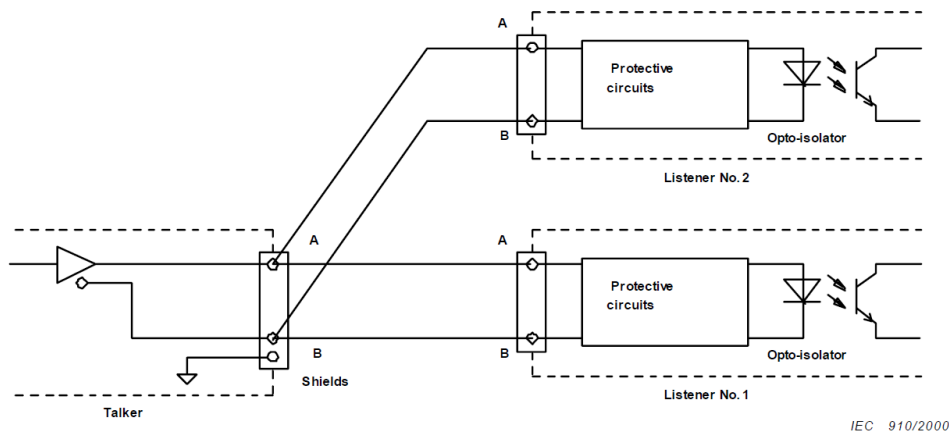

Figure 10: IEC 61162-1 Circuits
- One talker (Tx side, commonly a sensor such as GPS) may be connected to one or more listeners (Rx side, e.g. displays or computer systems such as ECDIS). The circuit looks as shown in *Figure 10: IEC 61162-1 Circuits* on page 15.